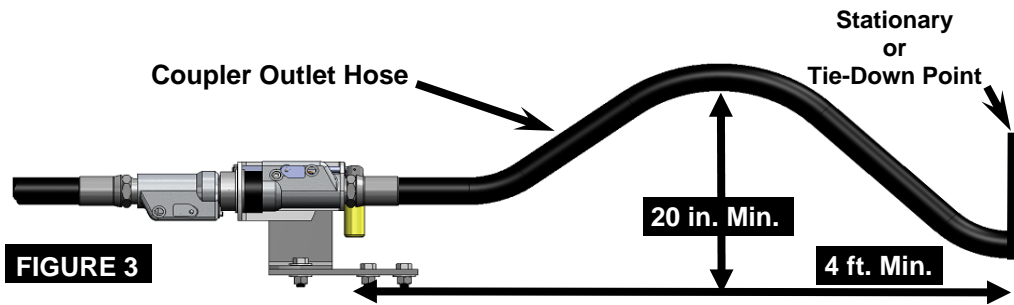

FIGURE 3
REFER TO FIGURE 3 — PROPER INSTALLATION
Figure 3 specifies the minimum outlet hose constraint parameters to assure safe rotation of the EZ Bracket.
- GRASP THE SUPPLY HOSE AND MAKE SURE THE EZ BRACKET CAN FREELY MOVE 80° RIGHT, 80° LEFT, 30° UP AND 30° DOWN, AS A MINIMUM. See FIGURE 3 - PROPER INSTALLATION.**
5. **GRASP THE SUPPLY HOSE AND MAKE SURE THE MOUNTING BRACKET CAN FREELY MOVE 80° RIGHT, 80° LEFT, 30° UP AND 30° DOWN, AS A MINIMUM. See FIGURE 3 - PROPER INSTALLATION.**